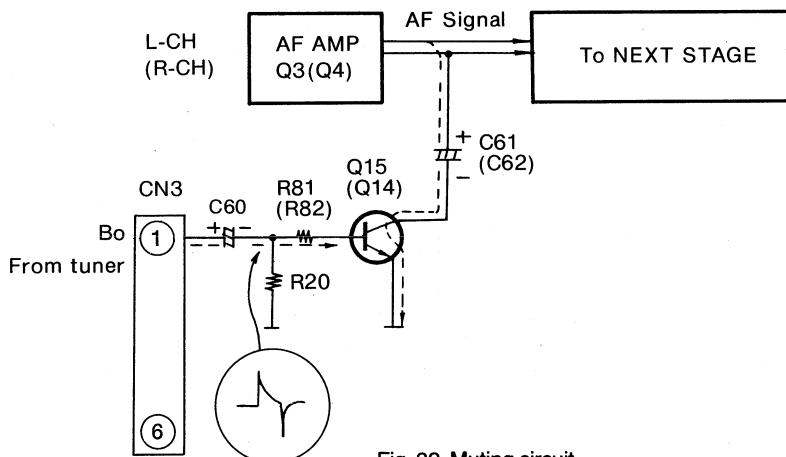

Fig. 32 Muting circuit
- Figure 32 shows the muting circuit when power to the unit is switched ON. A voltage of 13.8 V will appear at terminal ① (Bo) of connector CN3 when power is switched ON.